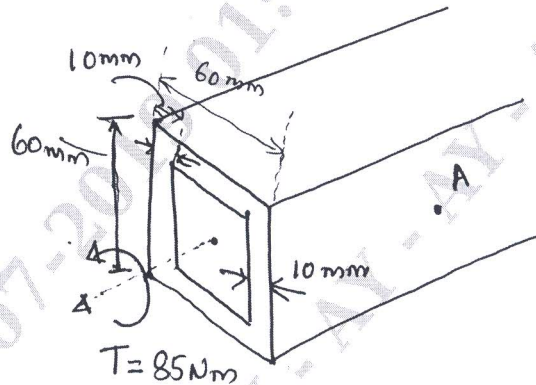

Fig.Q5(b)
- b. A square aluminum tube has the dimensions shown in Fig.Q5(b). Determine the average shear stress in the tube at point A if it is subjected to torque of 90 Nm. Also compute the angle of twist due to this loading. Take $G_{al} = 25$ GPa and thickness = 10 mm.